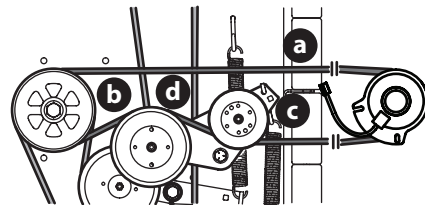

Fig. 60
- Remove the PTO belt (a) from the deck as instructed in the Deck Removal section then remove it from around the PTO clutch (Fig. 60).
- Route the PTO belt (a) (Fig. 60).
- After routing the belt around the PTO pulley (b), use a 1/2" drive in the idler pulley bracket (c) and turn towards the right of the mower to finish routing the belt around the idler pulley (d) (Fig. 60).